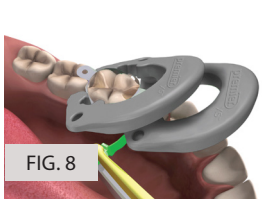

FIG. 8
**Dual-Mesial Ring Placement:** Premier X5™ ring may be stacked over each other for better access such as the case with MOD restoration. (Figure 8)